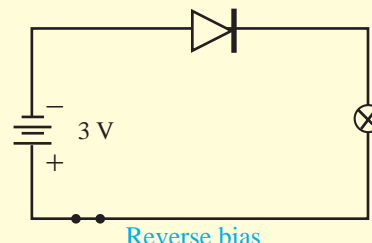

Figure 11.7(b)
- Connect the circuit on the circuit board (a project board/ bread board is better for this purpose) as shown in the Figure 11.7.